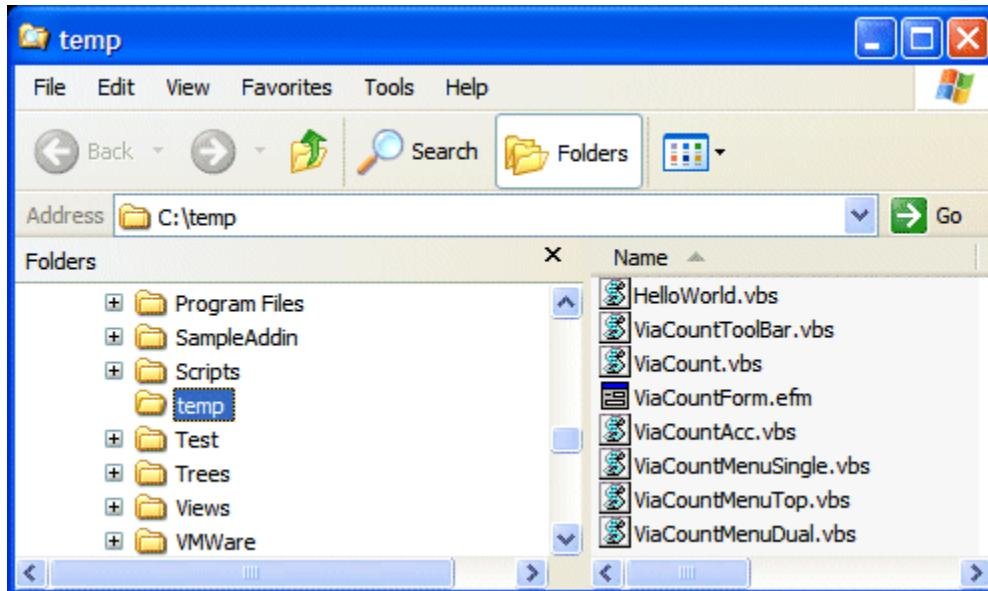

Figure 8-1. The contents of the C:\Temp folder.
- 1) Open an Explorer window and use it to locate and view the contents of the C:\Temp folder (directory), which is where you have stored all of the scripts you have created thus far as illustrated in Figure 8-1.